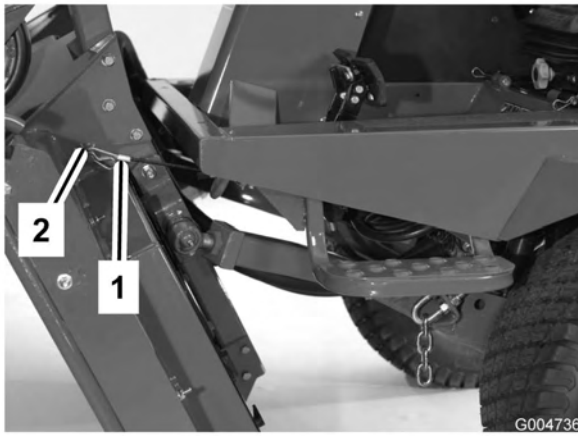

Figure 84
6. Hold the cutting unit upright, fit the cable end over the pin on the cutting unit lift arm and secure it with the hairpin cotter (Figure 84).